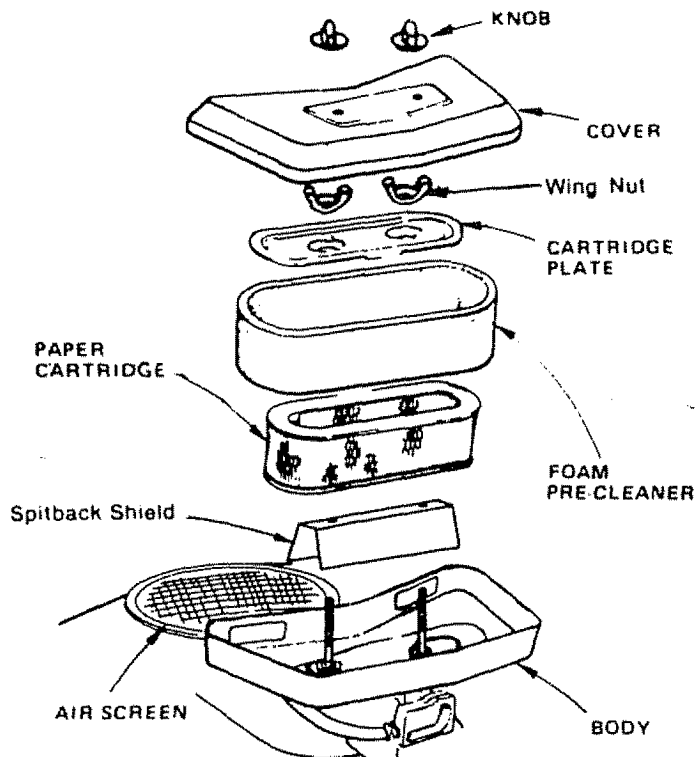

FIGURE 22
4. Clean Air Cleaner Foam Pre-Cleaner (Fig. 22)
Air screen (Fig. 22) must be kept free of dirt and chaff to prevent engine damage from overheating. Clean with a wire brush or compressed air to remove dirt, stubborn dried gum fibers.